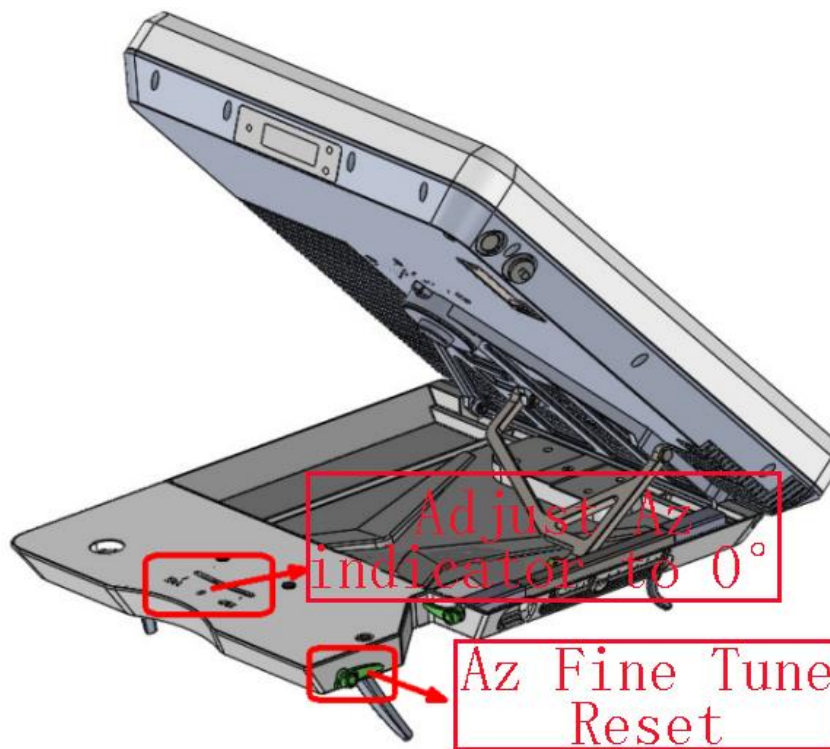

Figure 8-2-4 Position Knob Reset
5. Azimuth fine tune reset: Rotate the azimuth fine tune knob to the 0 position, that is, the azimuth reset is completed, as shown in Figure 8-2-4.